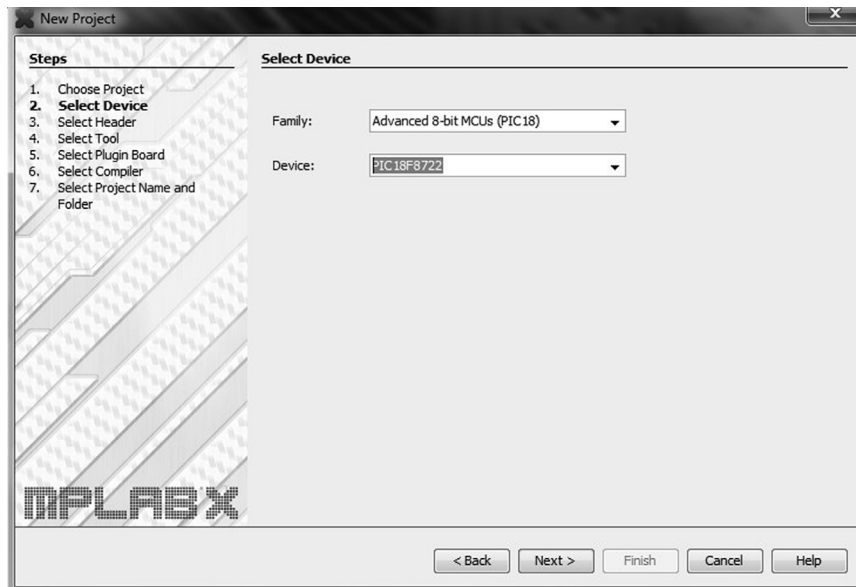

Figure 3.5: Select the Target Microcontroller.
Step 3. Click Next. Select the target microcontroller. Family: *Advanced 8-bit MCUs (PIC18)*, and Device: *PIC18F8722* as in Figure 3.5.